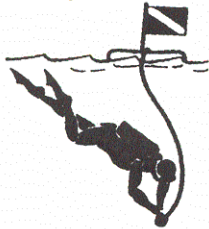

Figure J15: Diver Down Float
9. Do not allow anyone near the propeller(s), even when the engine is off. Propeller blades are sharp and can continue to turn even after the engine is off. Stay at least 150 feet away from areas marked by diver down float. See Figure J15.